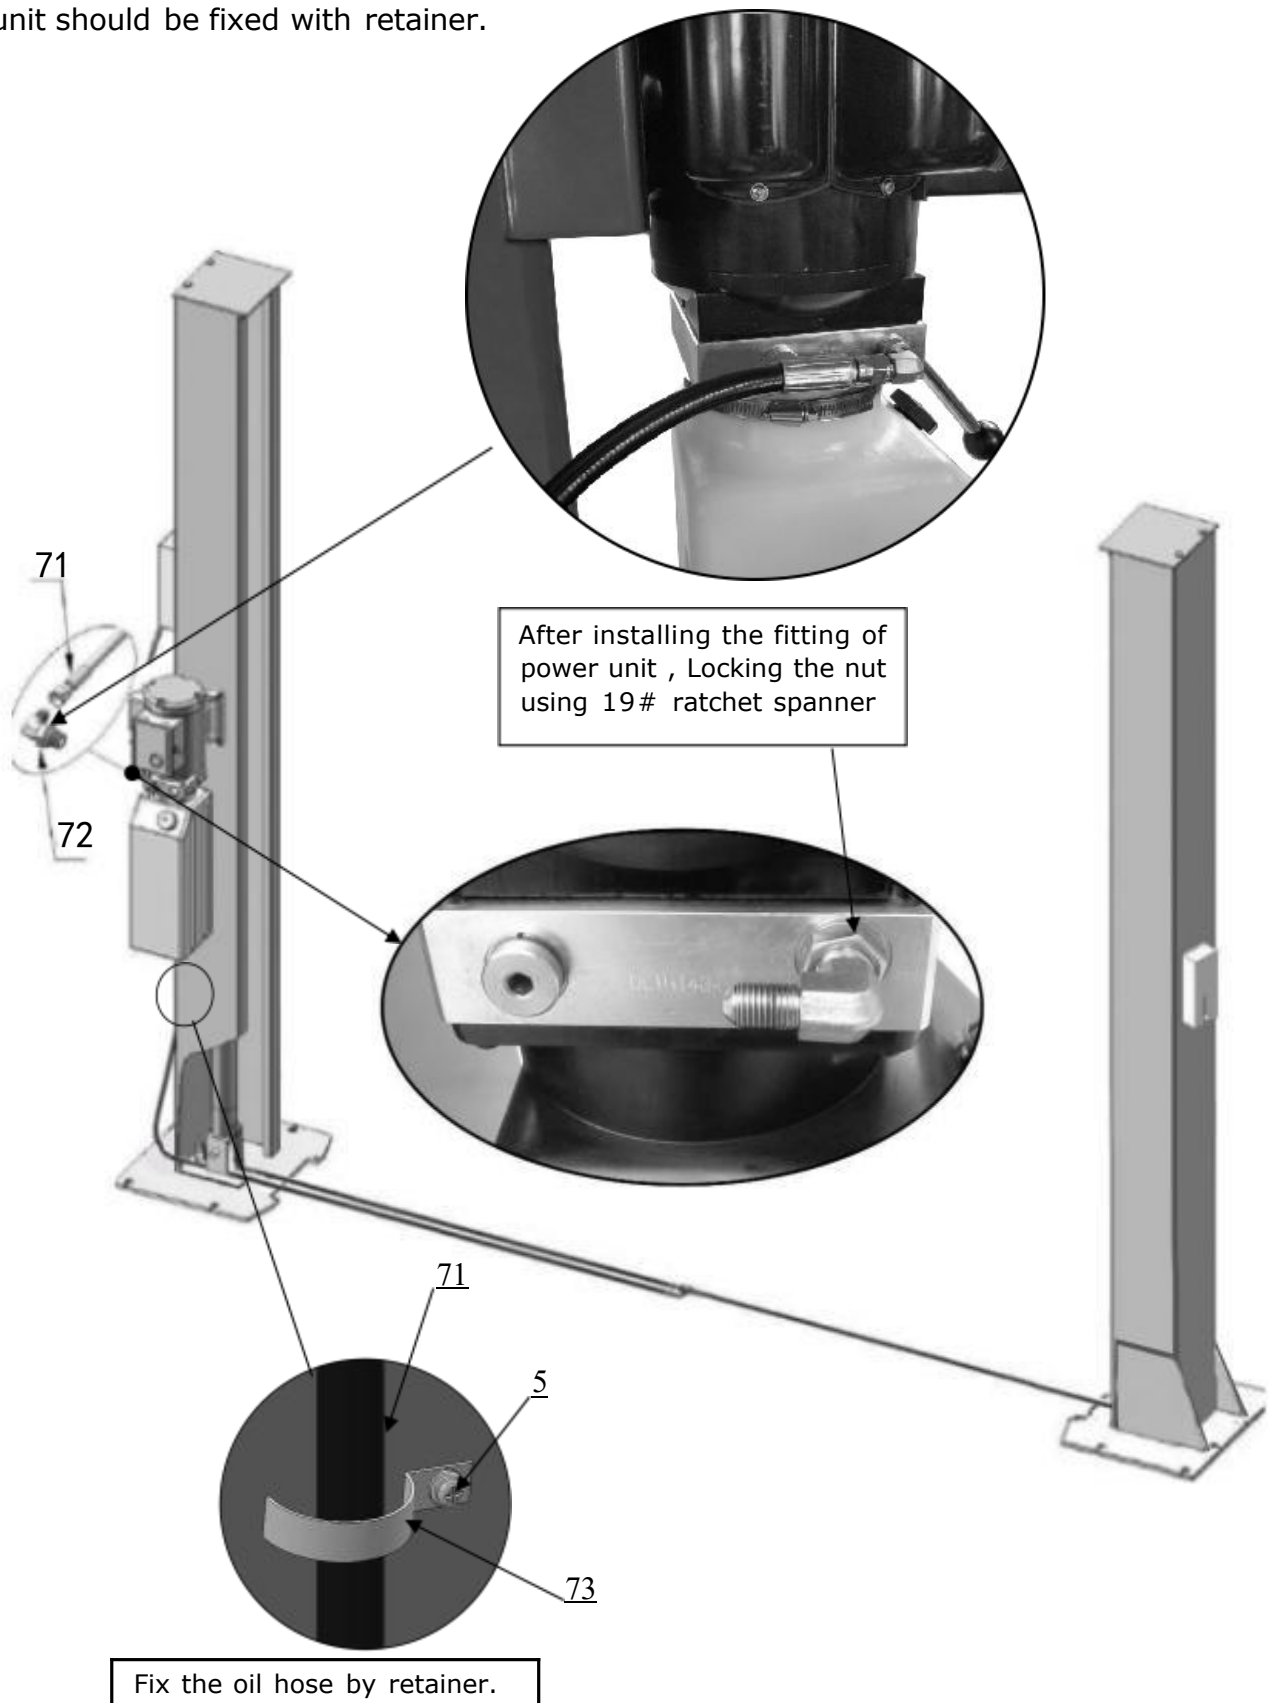

Fig. 21
K. Install hydraulic power unit and oil hose assy. (See Fig. 21).